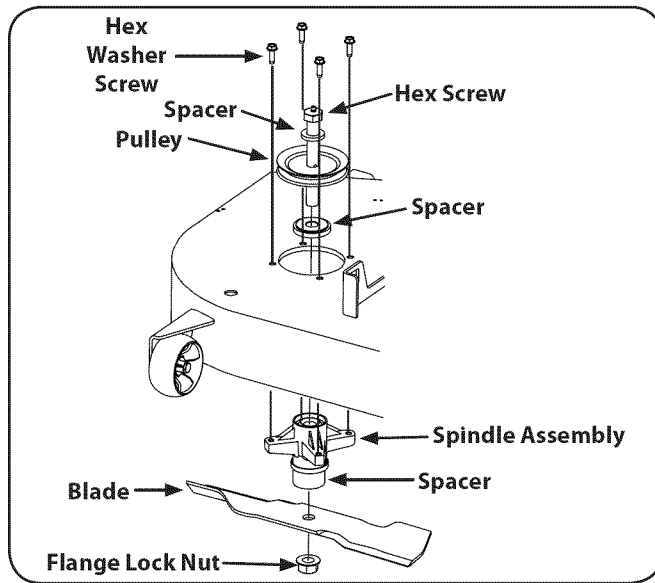

Figure 7-12
3. Use a $\frac{3}{4}$ " wrench to hold the hex nut on top of the spindle assembly when loosening the hex nut securing the blade. A block of wood may be placed between the deck housing and the cutting edge of the blade to help in breaking loose the hex nut securing the blade. See Fig. 7-12.
4. Using a wrench or socket ratchet remove four hex washer screws. Remove the spindle assembly. See Fig. 7-12.